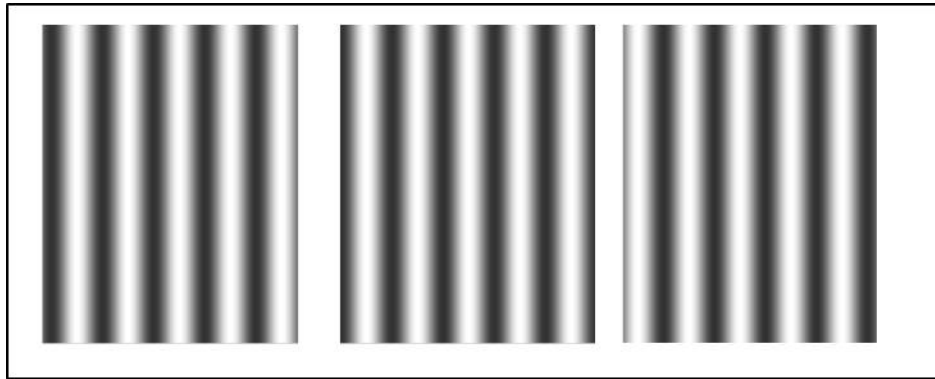

图 8. Phase Shift Patterns Example
- Phase shift or sinusoidal: A set of three sinusoidal intensity patterns, which is phase shifted by $2\pi/3$ on each subsequent pattern as shown in 图 8.